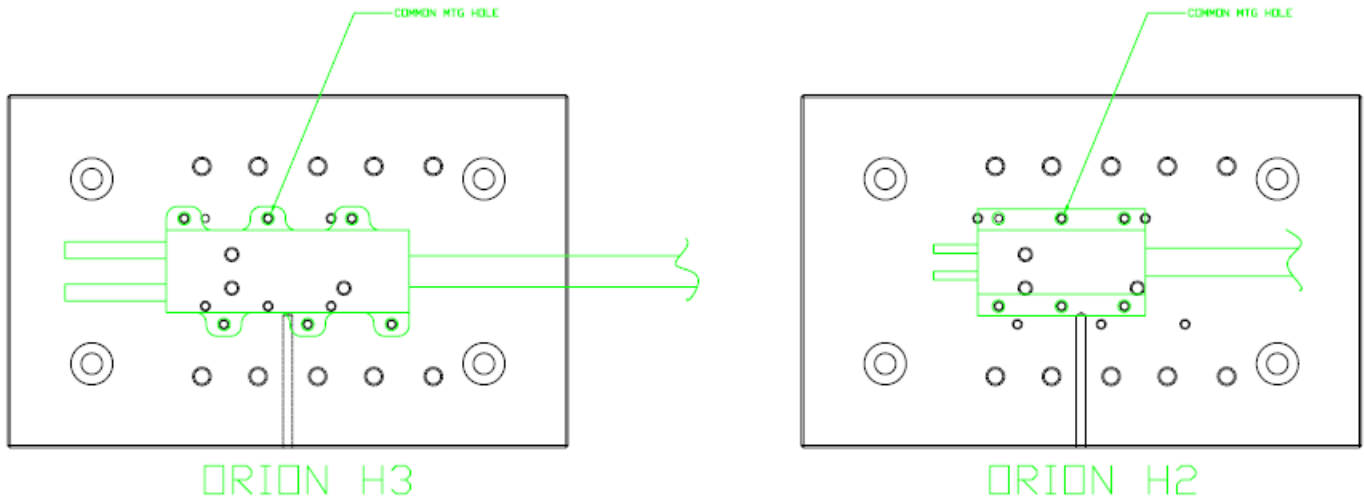

Figure 9 Hole patterns on 764H-061 top plate for Oclaro's Orion H2 and H3 package styles
- Connect the laser diode electrical cable (not supplied with mount) to the electrodes. Figure 9 shows example cable with the red wire connected to (+) and black wire connected to (-). The specific cable used to connect the laser diode may vary depend on the laser diode and LD driver used. Please see Newport's website for available cable options. Contact the laser diode manufacturers for recommended cable specifications. We recommend Newport's 5700 Series High Power Laser Diode Drivers to supply input current to the laser diode.